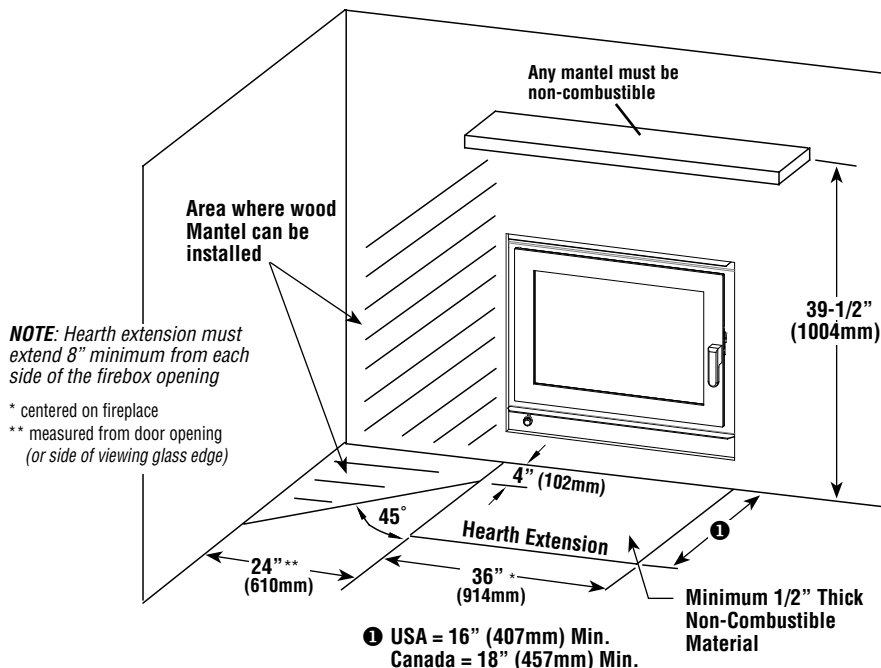

Figure 9
The combustible floor in front of the fireplace must be covered with a non-combustible material (tile, marble, stone, etc). See **Figure 9**.
- Elevated fireplace installations require a special "Z" Metal Safety Strips (field provided), in place of the safety metal strip shown above. The safety strip should extend the full width of the fireplace. When more than one safety strip is used they must overlap by a minimum of 1". Hearth extension of an elevated fireplace must respect the same minimal dimensions as a fireplace installed directly on the floor (**Figure 9**).